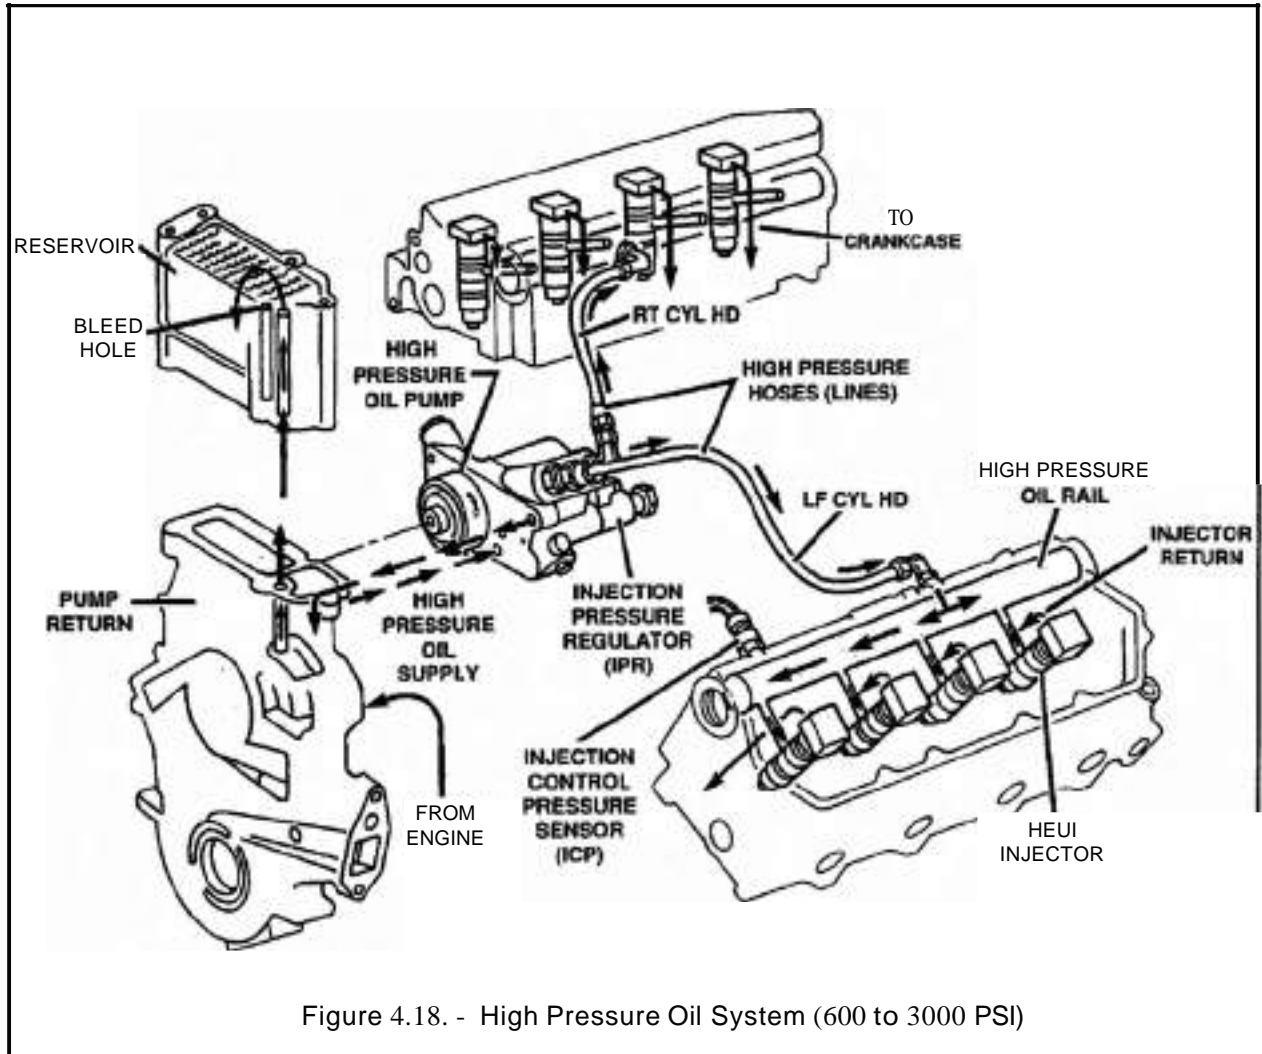

Figure 4.18. - High Pressure Oil System (600 to 3000 PSI)
- Leakage past the check valve in the high pressure pump may be intermittent, the check valve internal to the pump is not serviceable. If the high pressure pump is suspect, replace it. (Figure 4.18.) (Note: The IPR injection pressure regulator valve which is mounted in the pump will not cause a leak down problem and does not require replacement when a high pressure pump is replaced.)